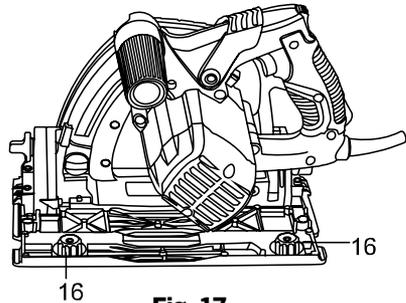

Fig. 17
7. Set the Track Tension Adjusters (16) to the minimum tensions setting before placing the saw onto the track (Fig.17).